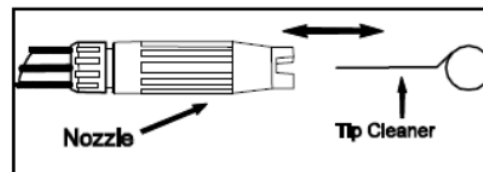

Figure 4- Insert tip cleaner in nozzle hole and move back and forth until debris is dislodged
- Using included tip cleaner, or an unfolded paper clip, insert wire into the nozzle hole and move back and forth until debris is dislodged. (See Figure 4)